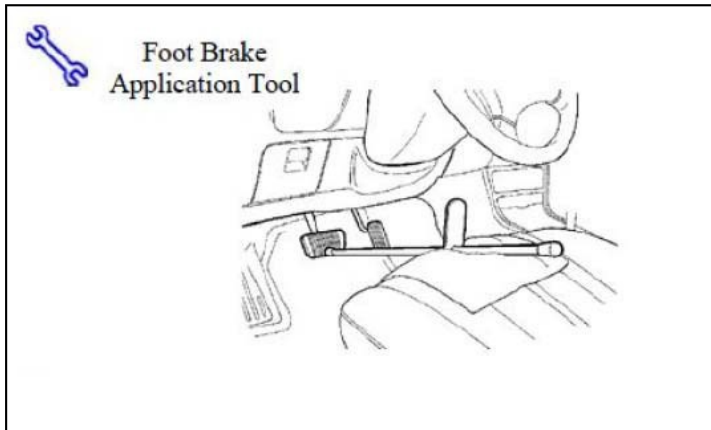

Figure 2
3. Add seat protection (blanket) and apply foot brake using foot brake application tool. Lift Vehicle. See Figure 2.